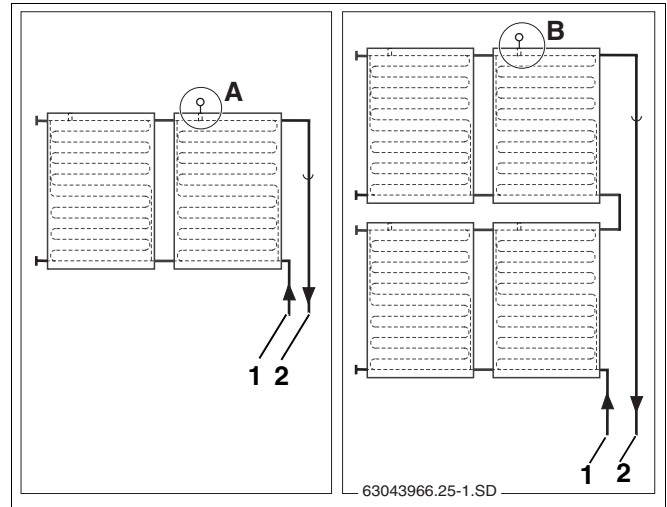

Fig. 30 Collector sensor installation location (schematic)
Observe the installation location for single or dual row collector systems (Fig. 30).
The collector sensor must be fitted in the collector nearest to the flow connection (Fig. 30, **Item 2**).
- Insertion point (Fig. 30, **Item A**) for single row collector systems.
- Insertion point (Fig. 30, **Item B**) for dual row collector systems.